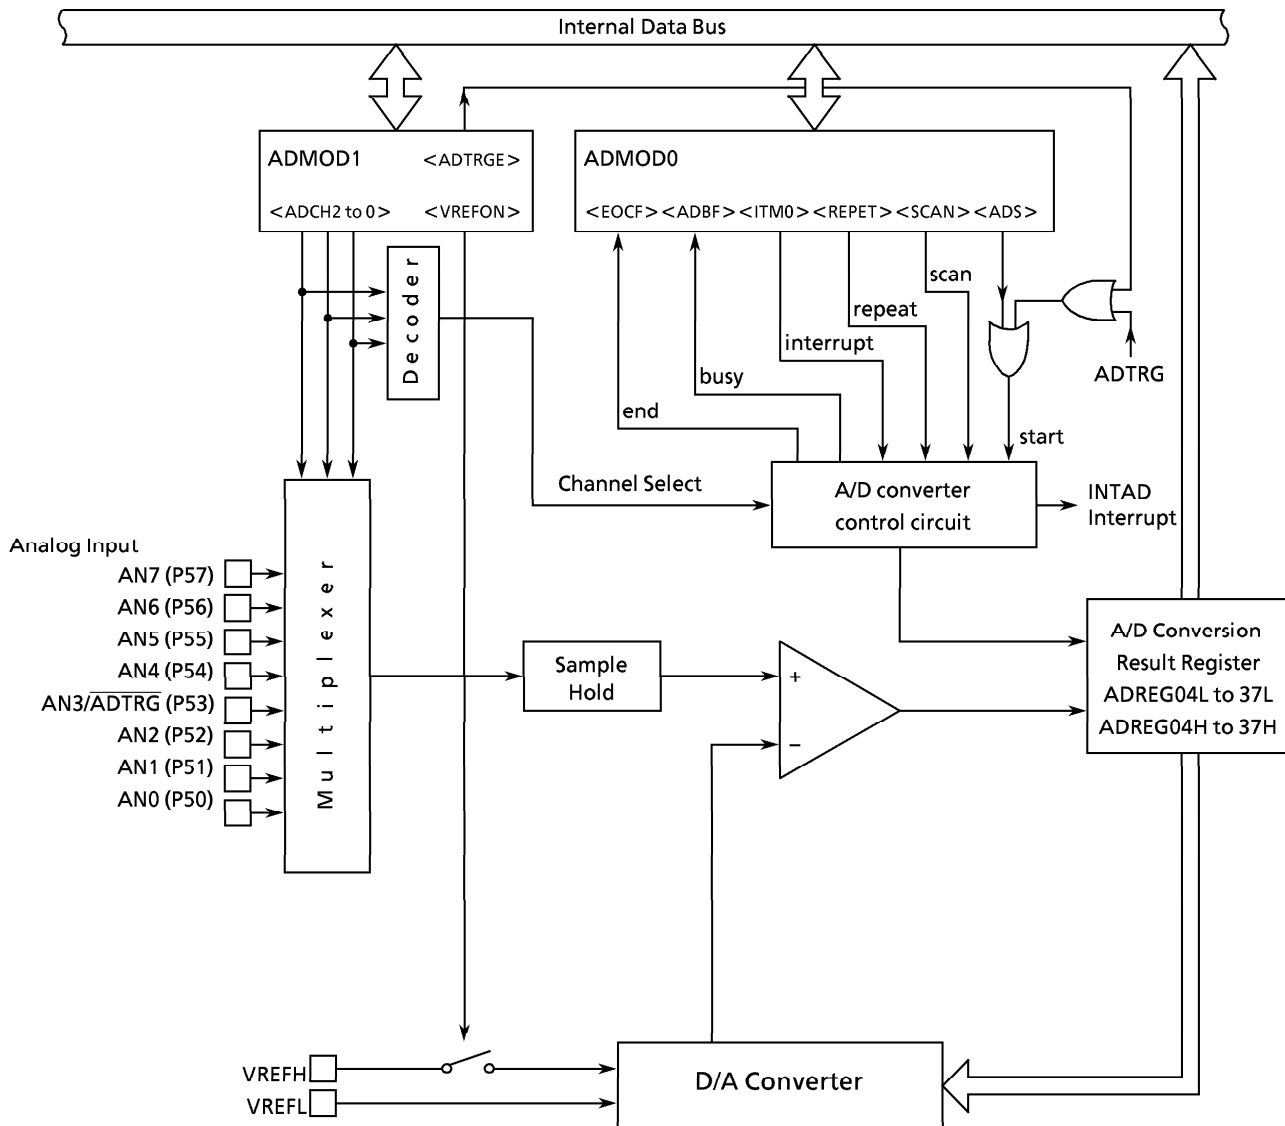

Figure 3.11 (1) Block Diagram of A/D Converter
Figure 3.11 (1) is a block diagram of the A/D converter. The 8-channel analog input pins (AN0 to AN7) are also used as input-only Port5 and can be also used as input ports.